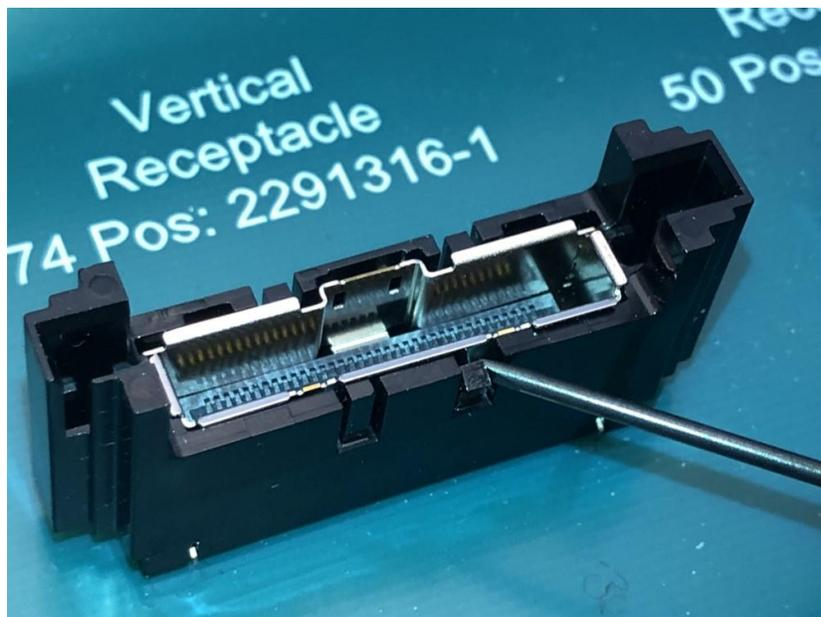

Figure 4
- Wedge and deform the sleeve hook away from the body of the connector, as seen in Figure 4.